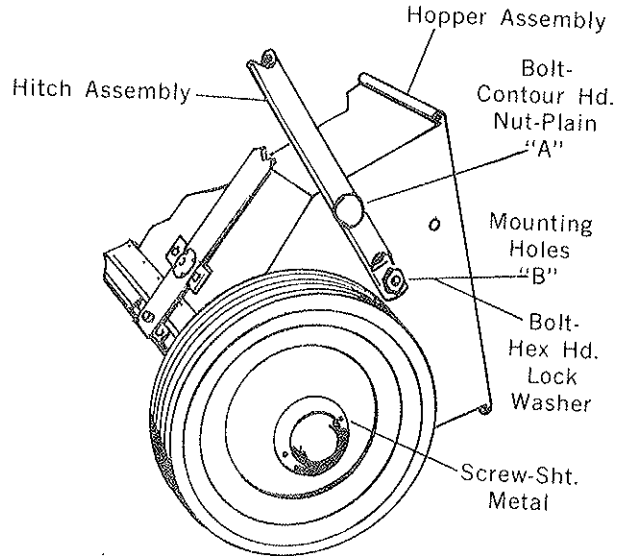

Figure 8
6. Fig. 8 - Place the Hitch Assembly over the Hopper Assembly and fasten with Bolts, Washers and Nuts shown at holes "A" and "B". The Contour Hd. Bolt goes thru the Handle-Lower and side panel of the Hopper. The Hex Hd. Bolts go thru the Handle side panel of the Hopper and Support Baffle. The Washers and Nuts to be on the inside of the Hopper. Now tighten all Bolts and Nuts.